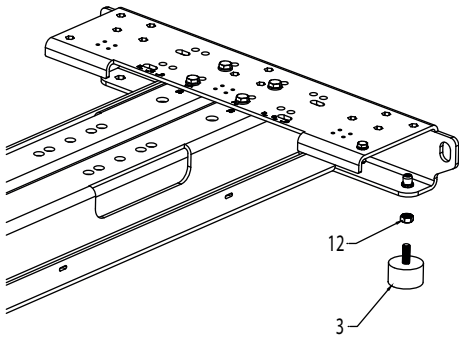

Fig. 3: Height adjustment
A slight height adjustment for stability is possible by means of the vibration absorbers in the frame (Fig. 3, Item 3).
- Loosen the counter nut (Fig. 3, Item 12).
- Screw the vibration absorber (Fig. 3, Item 3) in or out as required.
- Fix the counter nut again (Fig. 3, Item 12).
- Ensure that all vibration absorbers are mounted and locked with the threaded nut (Fig. 3, Item 12).